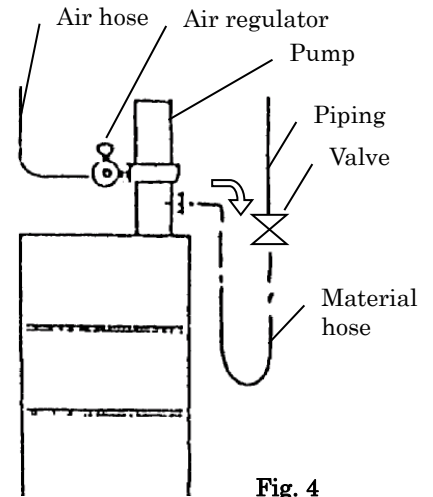

Fig. 4
- 2) Install a valve between the end of the hose and the piping. (Fig. 4)